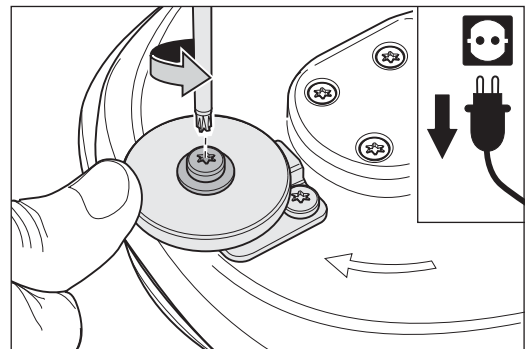

Fig. 62 Undo the screw in the middle of the wall-protecting roller.
- 3 Use the universal spanner to undo the screw in the middle of the wall-protecting roller (Fig. 62).